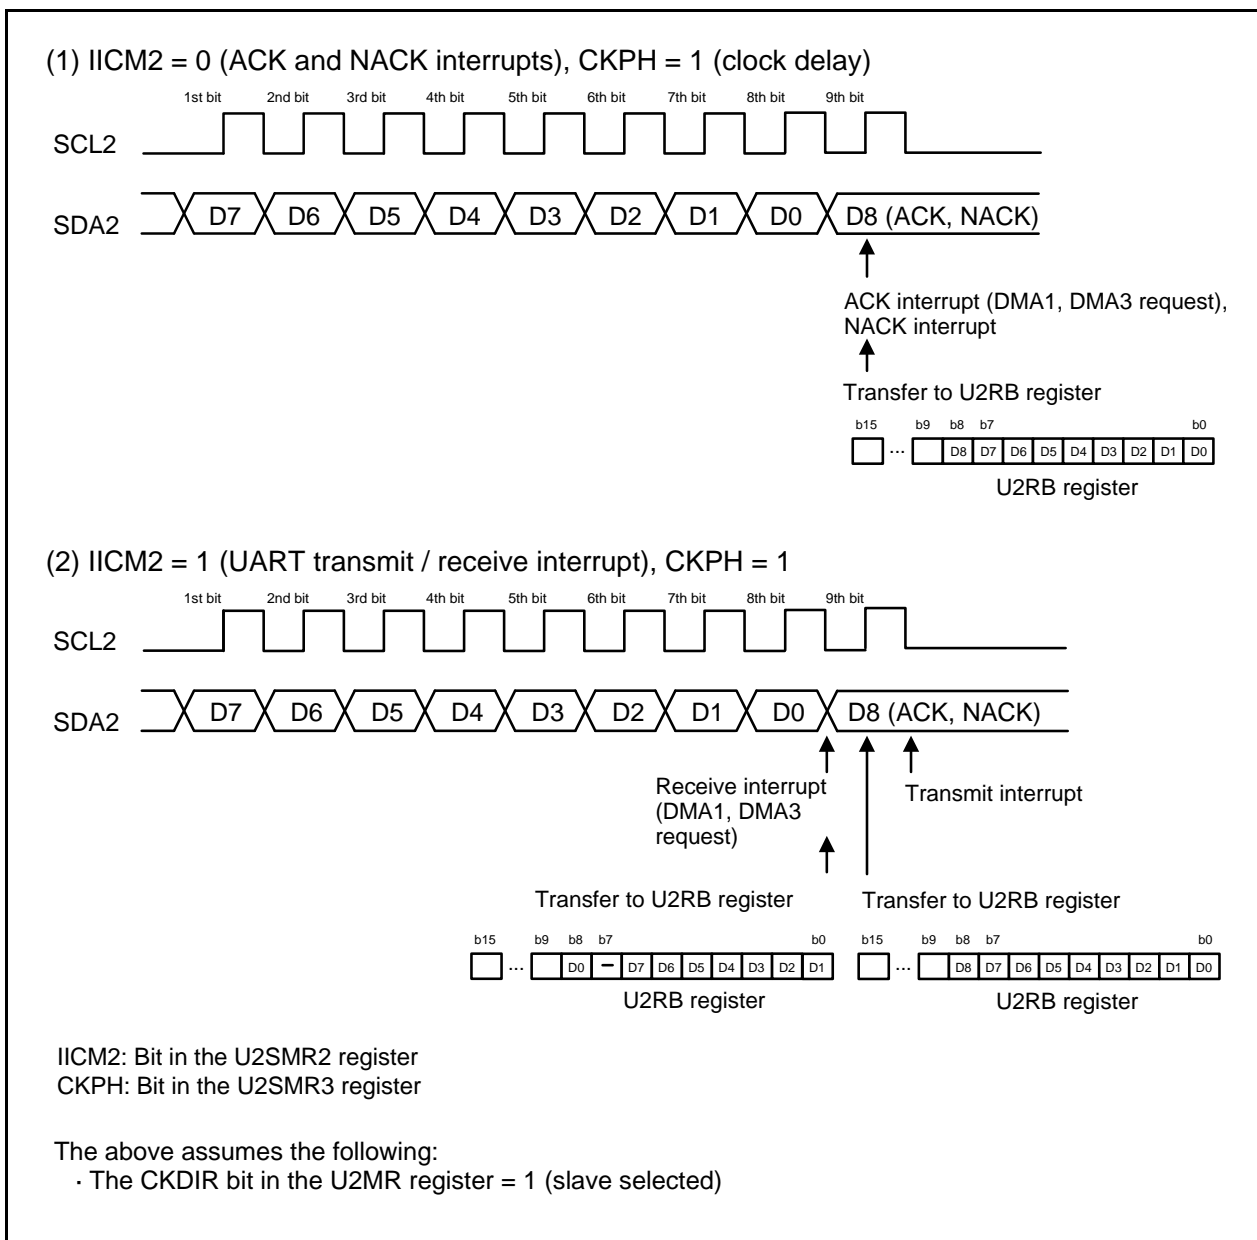

Figure 21.15 Transfer to U2RB Register and Interrupt Timing
In I2C mode, functions and timings vary depending on the IICM2 bit setting in the U2SMR2 register. Figure 21.15 shows Transfer to U2RB Register and Interrupt Timing. See Figure 21.15 for the timing of transferring data to the U2RB register, the bit position of the data stored in the U2RB register, types of interrupts, interrupt requests, and DMA request generation timing.
- See Figure 21.15 "Transfer to U2RB Register and Interrupt Timing".
Data transmission/reception in I2C mode uses the transmit/receive clock as shown in Figure 21.15 "Transfer to U2RB Register and Interrupt Timing". The clock speed increase makes it difficult to secure the required time for ACK generation and data transmit procedure. The I2C mode supports a function of wait-state insertion to secure this required time and a function of clock synchronization with a wait-state inserted by other devices.
Read the received data from the U2RB register. When the clock delay function is used, data transfer to the U2RB register occurs twice and each U2RB register value is different. Refer to Figure 21.15 “Transfer to U2RB Register and Interrupt Timing” for details.